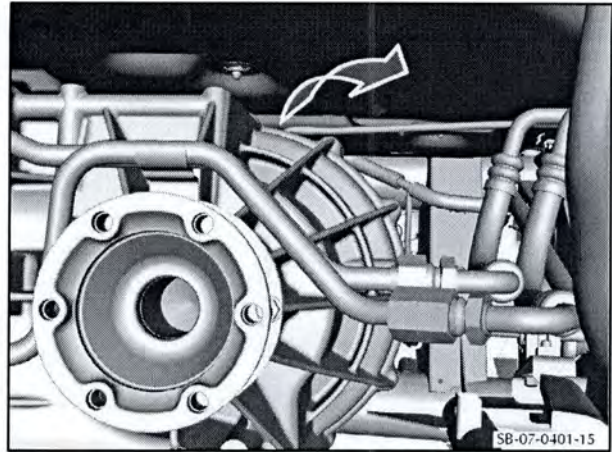

Figure 15
23. Disconnect the breather pipe from the transaxle and move the pipe away (refer to Figure 15).